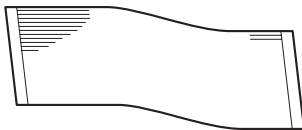

Fig. 1-3
- AD EXTD-2 (Part Number : YWA0EA1199AN) between the Main Board and AD/DA Board as shown in fig. 1-3.